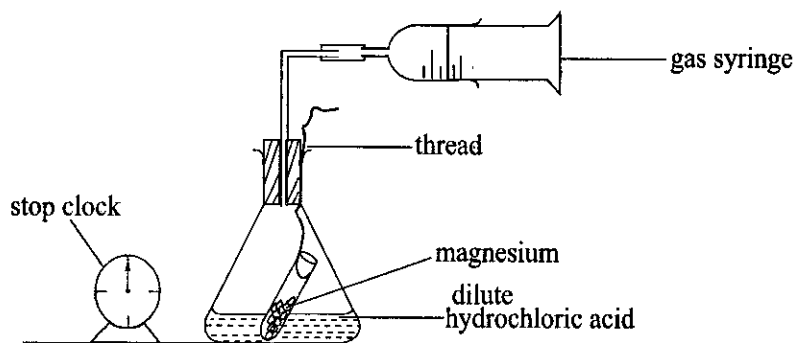
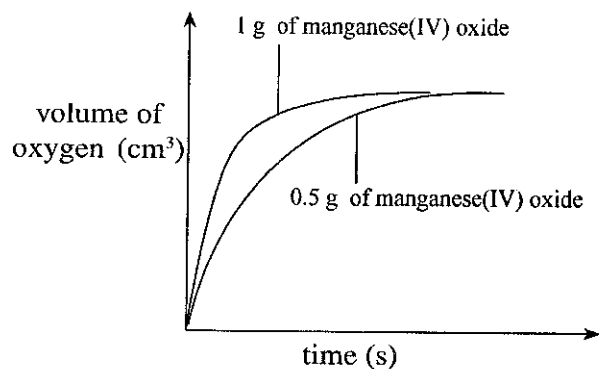
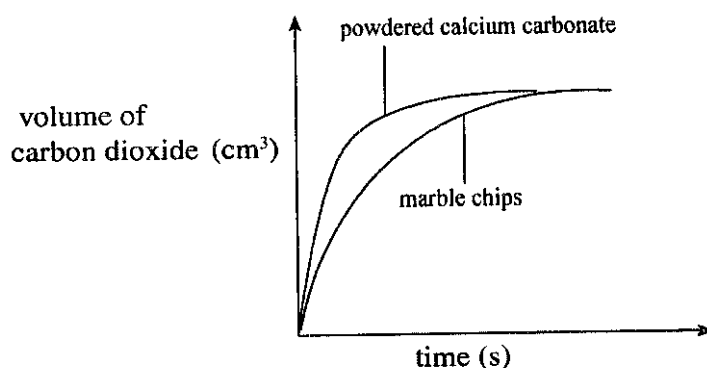

Fig 11.1 Determination of rate of reaction
Fig 11.6 Graphs of volume of oxygen against time
Fig 11.7 Graphs of volume of carbon dioxide against time
A known mass of magnesium and a known volume of dilute hydrochloric acid in a test-tube tied with a thread, are placed in a conical flask and the experiment is set up as shown in figure 11.1. The stopper is opened for a moment so that thread is free. The test-tube drops pouring hydrochloric acid into the conical flask. At the same time, the clock is started. The volume of hydrogen in the syringe is recorded at regular intervals until the reaction is complete.
Place 100 cm³ of 0.1 M hydrogen peroxide in a conical flask. Add 0.5 g of manganese(IV) oxide to the hydrogen peroxide in conical flask. Then set up the experiment as shown in figure 11.1. record the volume of oxygen in the syringe at regular intervals until the reaction is complete. Repeat the experiment using 1 g of manganese(IV) oxide. When the graphs of volume of oxygen against time are plotted using the same axes, they appear as shown in figure 11.6.
Pour 20 cm³ of 1 M hydrochloric acid in a test-tube. To the conical flask add 10 g of calcium carbonate lumps and then set up the experiment as shown in figure 11.1. Record the volume of carbon dioxide in the syringe at regular intervals until the reaction is complete. Repeat the experiment using the same mass of powdered calcium carbonate. When the graphs of volume of carbon dioxide against time for both powdered calcium carbonate and calcium carbonate lumps, are plotted using the same axes, they appear as shown in figure 11.7.